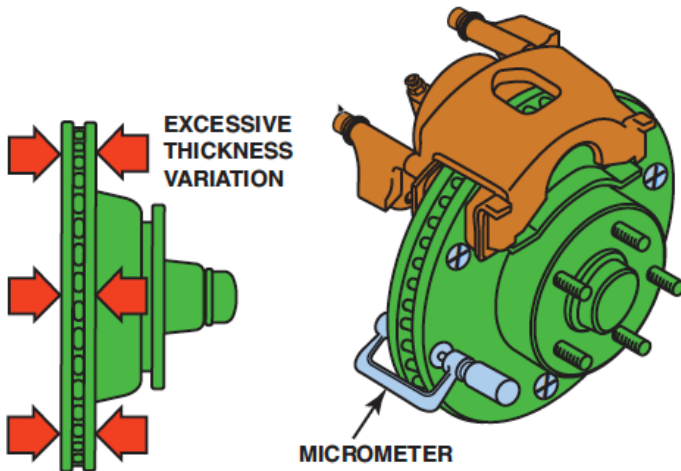

Figure 18. Thickness variation is measured with a micrometer.
Lack of parallelism, also called thickness variation (TV), is a variation in the thickness of the rotor when it is measured at several places around its circumference. A rotor with friction surfaces that are not parallel is the most common disc brake cause of a pulsating brake pedal. Most manufacturers specify that the two friction surfaces of a rotor must be parallel within half a thousandth of an inch, 0.0005 inch (0.013 mm), or less. Figure 18.